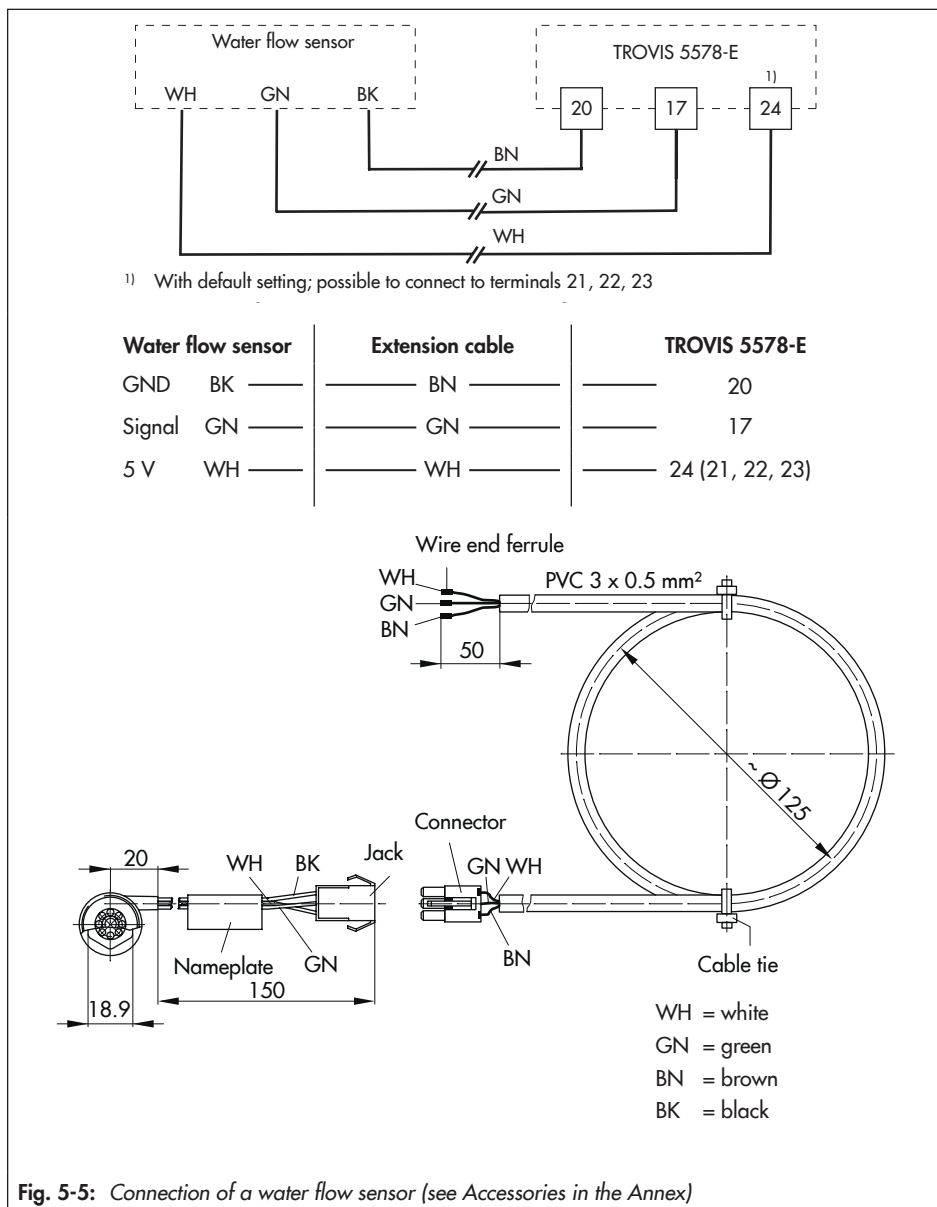

Fig. 5-5: Connection of a water flow sensor (see Accessories in the Annex)
- Connect as shown in Fig. 5-5.